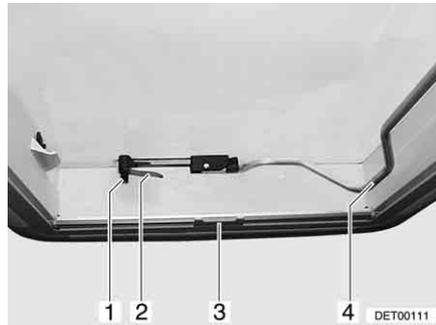
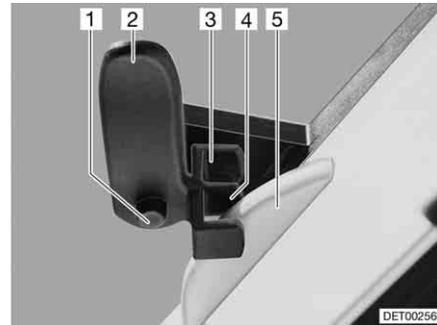

Fig. 67 Heki skylight, closed
Fig. 68 Heki skylight in ventilation position 1
*Opening:* ■ Press the safety knob (Fig. 67,1) and turn the catch lever (Fig. 67,2) one quarter turn inward.
■ Pull the bar (Fig. 67,4) downwards out of the latch.
*Closing:* ■ Pull the bar (Fig. 67,4) downwards out of the latch.
■ Turn the catch lever (Fig. 67,2 and Fig. 68,2) one quarter turn. The hook of the roof lock (Fig. 68,5) must engage in the upper locking fork (Fig. 68,3).
■ Press the safety knob (Fig. 68,1) and turn the catch lever (Fig. 68,2) back. The hook of the roof lock (Fig. 68,5) must engage in the lower locking fork (Fig. 68,4).